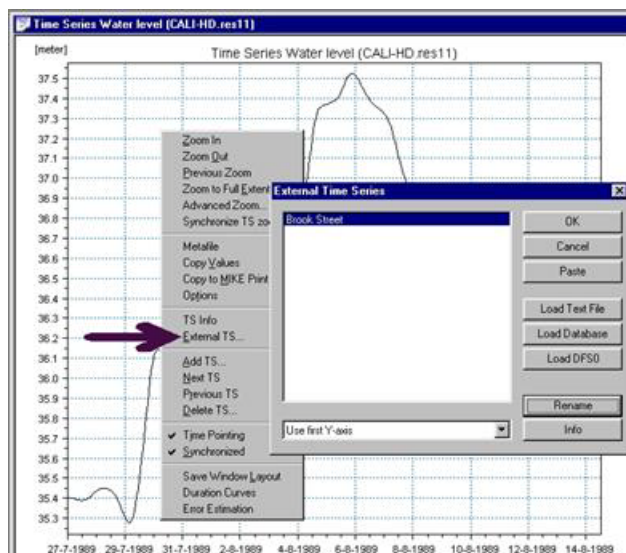

Figure 13.38 Adding an External Time Series via the Local Menu
3. Make the TSW active. Select the local menu option "External TS...". In the ETS dialog select the <Paste> button. This opens the dialog for specifying a file name for the time series that we want to paste from the Clipboard. Specify a file name and select <OK> (see Figure 13.38).